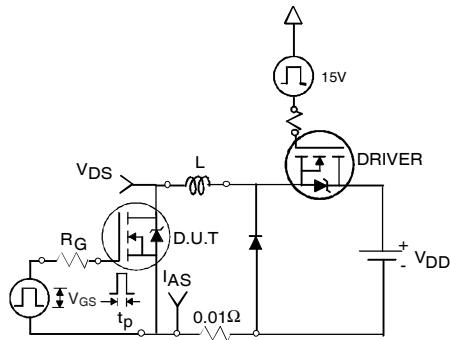

Fig 12a. Unclamped Inductive Test Circuit
- ③ $I_{SD} \leq 48\text{A}$, $di/dt \leq 330\text{A}/\mu\text{s}$, $V_{\text{DD}} \leq V_{(\text{BR})\text{DSS}}$, $T_J \leq 175^\circ\text{C}$
- ④ Pulse width $\leq 400\mu\text{s}$; duty cycle $\leq 2\%$.
- ⑤ $C_{\text{oss eff.}}$ is a fixed capacitance that gives the same charging time as C_{oss} while V_{DS} is rising from 0 to 80% V_{DSS} .
- ⑥ Limited by $T_{J\text{max}}$, see Fig.12a, 12b, 15, 16 for typical repetitive avalanche performance.
- ⑦ This value determined from sample failure population. 100% tested to this value in production.
3. Equation below based on circuit and waveforms shown in Figures 12a, 12b.